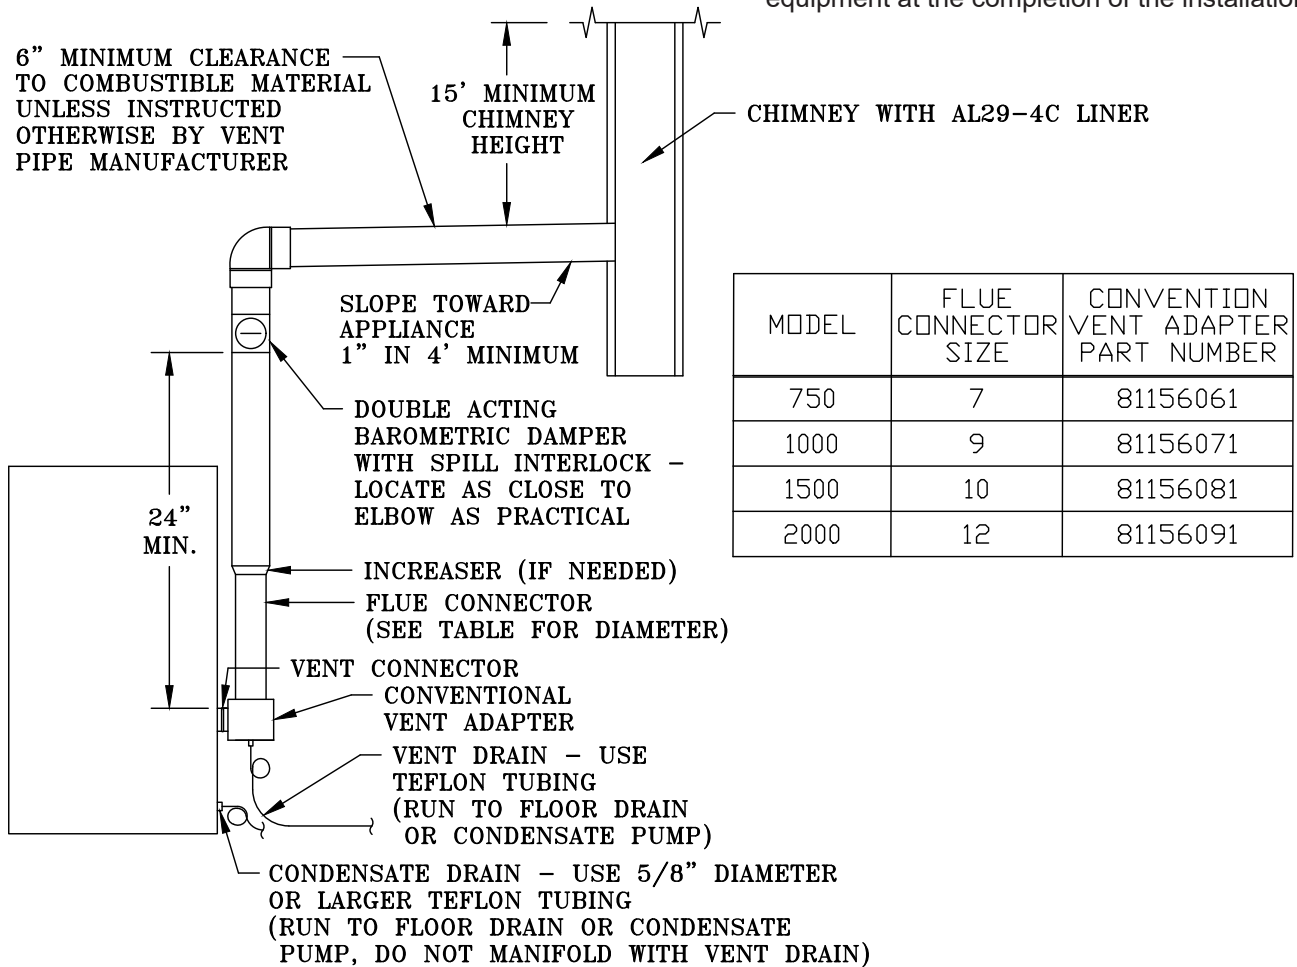

Figure 3: Typical Negative Pressure (Conventional) Venting
- a. Refer to Figure 3 for an example of a typical conventional venting arrangement.